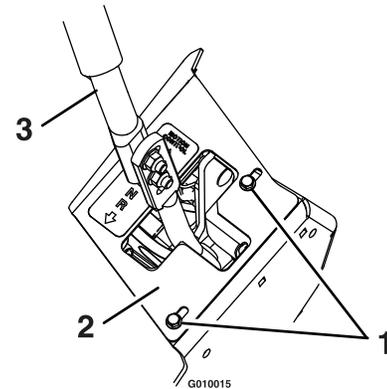

Figure 49
1. Loosen the screws on a cover plate (see Figure 49).